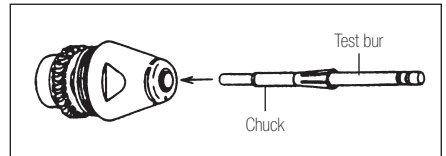

Fig.13
- Apply oil thinly on the surface of the new chuck or the chuck after cleaning, insert the test bur and push into the rotor shaft. (Fig.13)